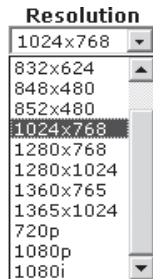

Figure 6-9 — Resolution scroll box
1. Click the Resolution field. A drop down scroll box appears (figure 6-9).